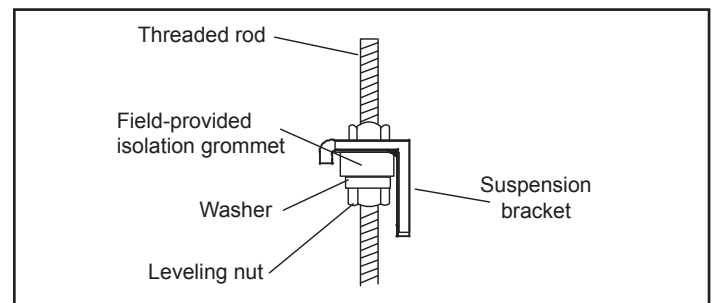

Figure 6. Locate Suspension Bracket on Threaded Rod
- VCFA012-048 units:** Afix the two long suspension brackets provided in accessory package to the previously installed threaded rods. See figure 6.
- Slide a washer and then a nut onto each rod below each suspension bracket. Use the leveling nut (beneath suspension brackets) to adjust the bracket to the correct height. Remove the electrical tape holding the upper washers and nuts in place and tighten each of the four nuts above the brackets down onto the brackets. This will ensure that the unit remains level. See figure 6.